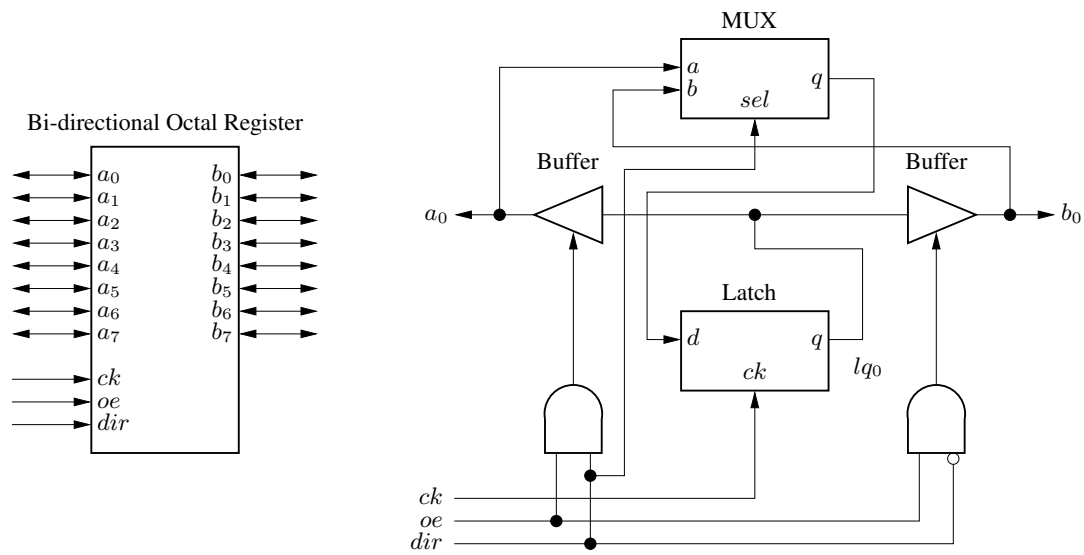

Figure 9: Schematic of the bi-directional octal register at left with some internal detail at right
*This question is optional for the students who are keen to experiment with the simulator. The design of the bi-directional octal register was given in lectures. Schematically, the register and some internal detail is shown in Figure 9. This is a good example where a VHDL description is far more concise and simple than a schematic diagram.*